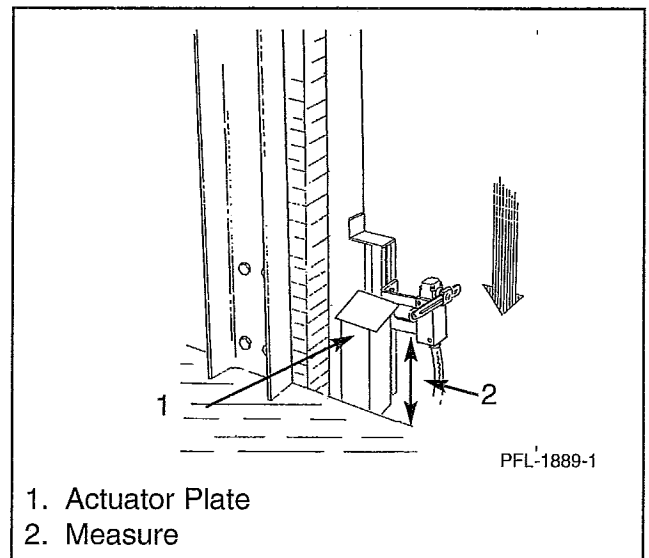

Figure 3
2. Position the limit switch actuator plate on the carriage so that the roller on the switch arm of the limit switch assembly makes contact with the center of the bottom of the actuator plate. See Figure 3.
Take a measurement from the carriage deck to the top of the limit switch actuator plate. This measurement will be needed for mounting the upper level limit switch. See Figure 3.